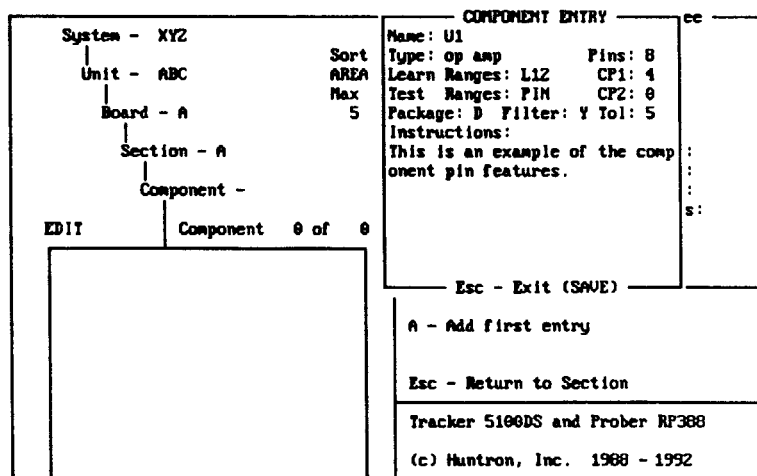

Figure 7-1. Component Entry Pop-up Window.
5. For this example, we will enter an 8 pin IC. Type the following into the component entry window until it matches what is shown in Figure 7-1.